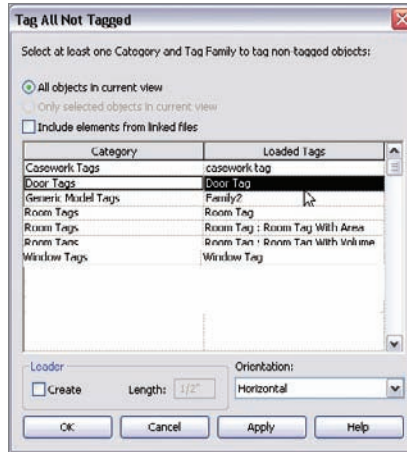

FIGURE 11.69 Selecting door and window tags
6. Make sure the All Objects In Current View radio button is selected (see Figure 11.69).